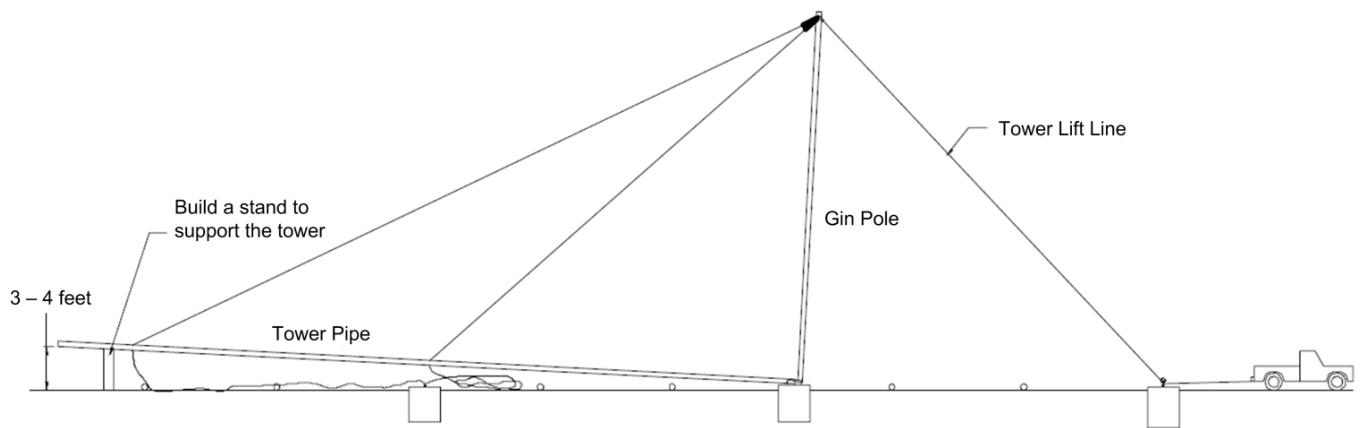

Figure 14
14. Once you are comfortable lowering and raising your tower, it is time to install the turbine. Lower the tower pipe so the end is resting on a support stand near the top guy cables (see Figure 14). This stand should hold the end of the tower pipe approximately 3 to 4 feet off the ground. You may need several wood blocks of different heights to support the tower.